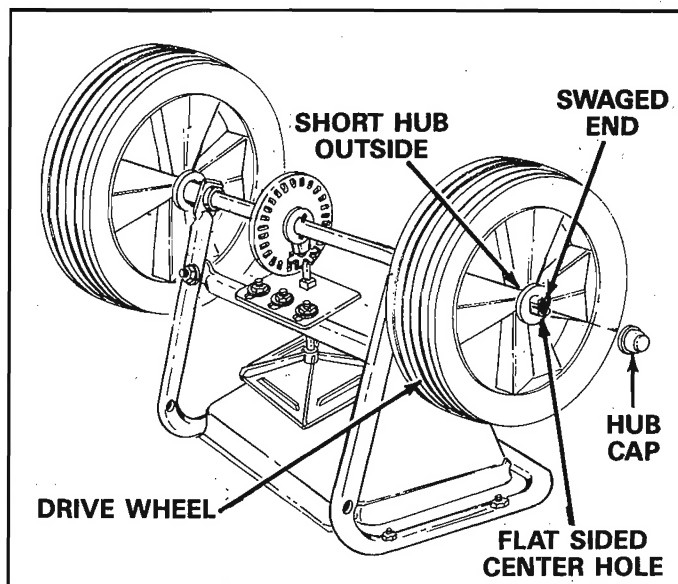

FIGURE 6
6. Place wheel with flat sided center hole onto swaged end of axle. The side of the wheel with the shortest hub must be toward outside of axle. See figure 6.
7. Place hub cap onto axle outside of wheel. Using a small hammer lightly tap hub cap until snug against wheel. See figure 6.